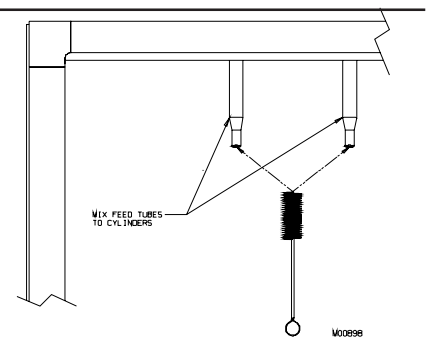
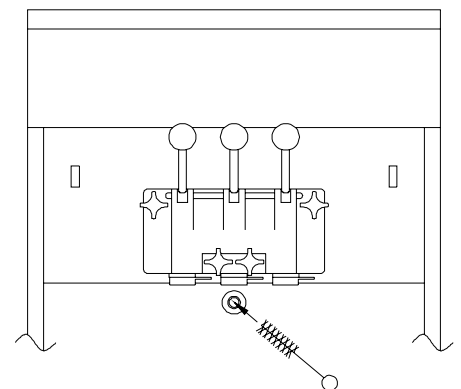

Figure 6-8 Brush inside of cylinder mix feed tubes.
Figure 6-9 Brush inside of drain tube.
4. Using a warm dish detergent solution thoroughly brush; the mix feed tubes from the refrigerated cabinet to the cylinders as shown in figure 6-8, the inside of the cylinders including the back wall, and the inside of the drain tube, as shown in figure 6-9.